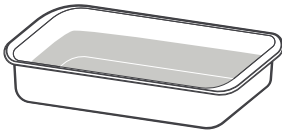

Figure 4.3
- b. If there are some burned-on residues on the bottom of casserole pan, you can fill the casserole pan with non aggressive liquid cleanser. Let it sit for 20 minutes. Then use sponge to clean it [Figure 4.3]